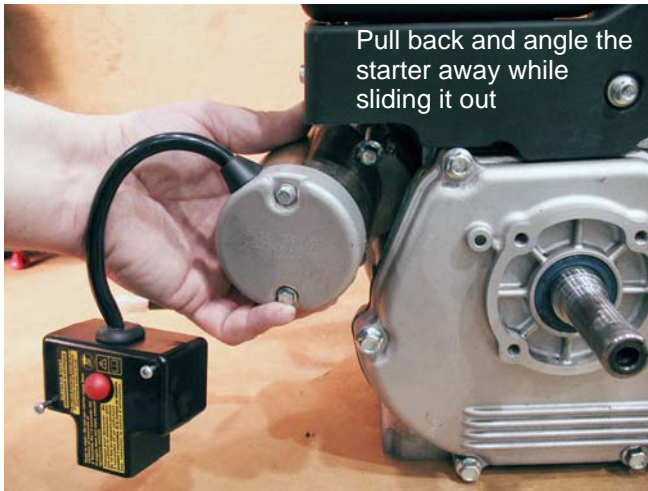

Figure 6.13
4. Pull back on the starter approximately 1/2". Then angle it away from the engine while sliding it out of the engine. See Figure 6.13.